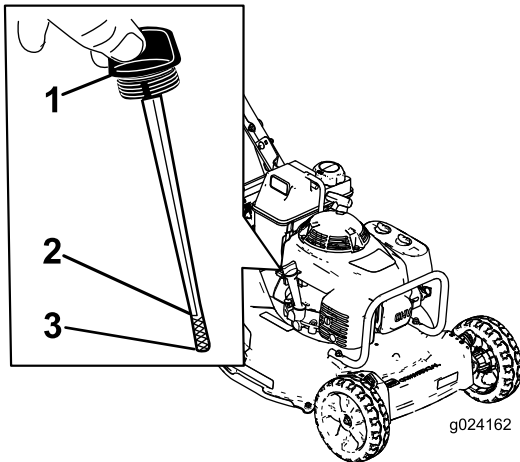

Figure 7
Before each use, ensure that the oil level is between the lower-limit and upper-limit marks on the dipstick (Figure 7).
2. Clean around the dipstick (Figure 7).